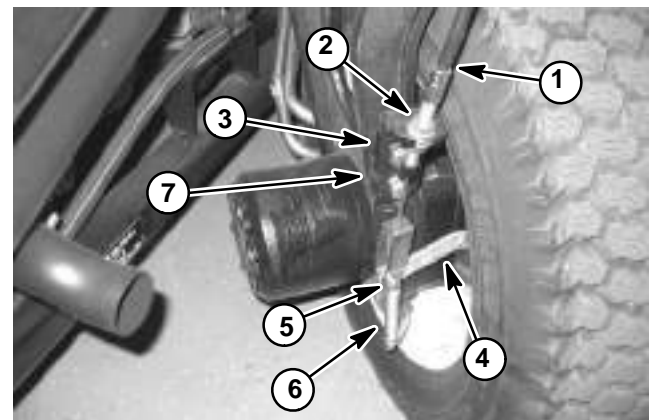

Figure 24
3. Loosen, but do not remove, wheel lug nuts and wheel motor shaft lock nut (item 23) at rear steering fork to be removed.
5. Remove rear wheel assembly, brake drum, wheel hub (item 12) and brake assembly (item 17) from the machine (see Brake Service in this section).
6. Disconnect brake cable from brake actuator lever and brake bracket (Fig. 24) (see Brake Cables in this section). Position brake cable away from steering fork.
2. Install thrust washer (item 7) onto the steering fork spindle and slide the spindle up through the axle tube. Hold the steering fork in place and install the upper thrust washer (item 11) and retaining ring (item 19) onto the end of the spindle. Make sure that retaining ring is fully seated in spindle groove.
3. Place the spindle cap (item 20) to the top of the steering fork spindle and secure with flange head screw (item 21).
- B. Apply Loctite #271 (or equivalent) to threads of cap screws (item 6).
- C. Secure wheel motor and brake support to steering fork with four (4) cap screws and lock washers. Torque cap screws from **94 to 116 ft-lb (128 to 157 N-m)**.
- D. Secure bulkhead bracket (item 32) to steering fork with two (2) cap screws (item 34).
- NOTE:** Brake bracket should have notch orientated toward machine frame (Fig. 24).
6. Install brake cable to brake actuator lever and brake bracket (Fig. 24) (see Brake Cables in this section).
8. Install brake assembly (item 17), wheel hub (item 12), brake drum and rear wheel assembly to the machine (see Brake Service in this section).